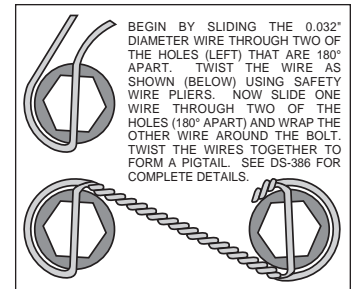

Figure 3. Safety Wire Diagram
- The hat/rotor assembly (5) has been pre-assembled at the factory using red *Loctite*® 271 on the mounting bolts and torqued to specification. For an added measure of security, the bolts may be safety wired using standard 0.032 inch diameter stainless steel safety wire as shown in Figure 3. Please refer to Wilwood's data sheet DS-386 (available at [www.wilwood.com/Pdf/DataSheets/ds386.pdf](http://www.wilwood.com/Pdf/DataSheets/ds386.pdf)) for complete safety wire installation instructions.